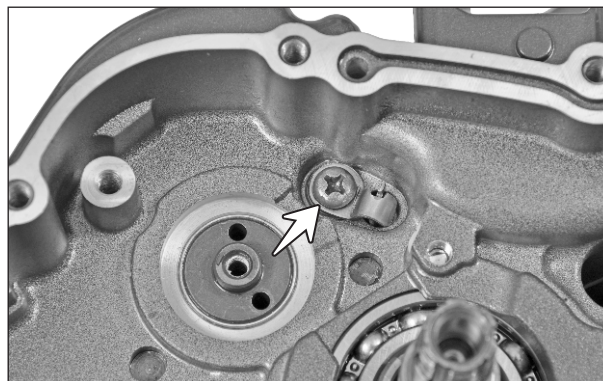

Fig. 3.138
- Remove the CRR pan head screw (M6x12 - 1 no.) from the retainer guide T/M oil and remove the guide T/M oil. (Fig. 3.138)